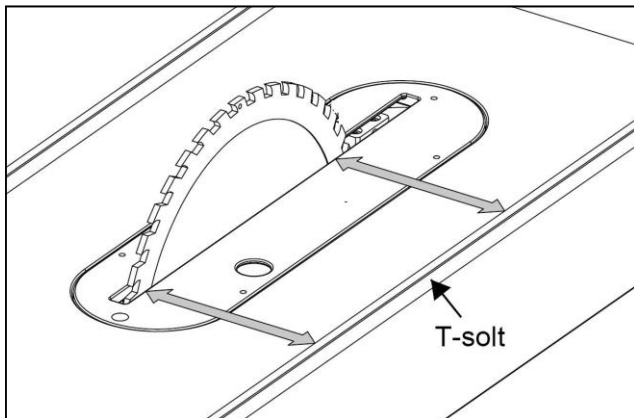

Fig. 21
1. The table T-slot must be aligned parallel with the blade. Using a combination square measure the distance from the back edge of the blade to the table T-slot. Pivot blade forward 180° and re-measure the distance using the exact same point on the blade. The difference between both measurements must be less than 0.2mm. Refer to **Fig. 21**.